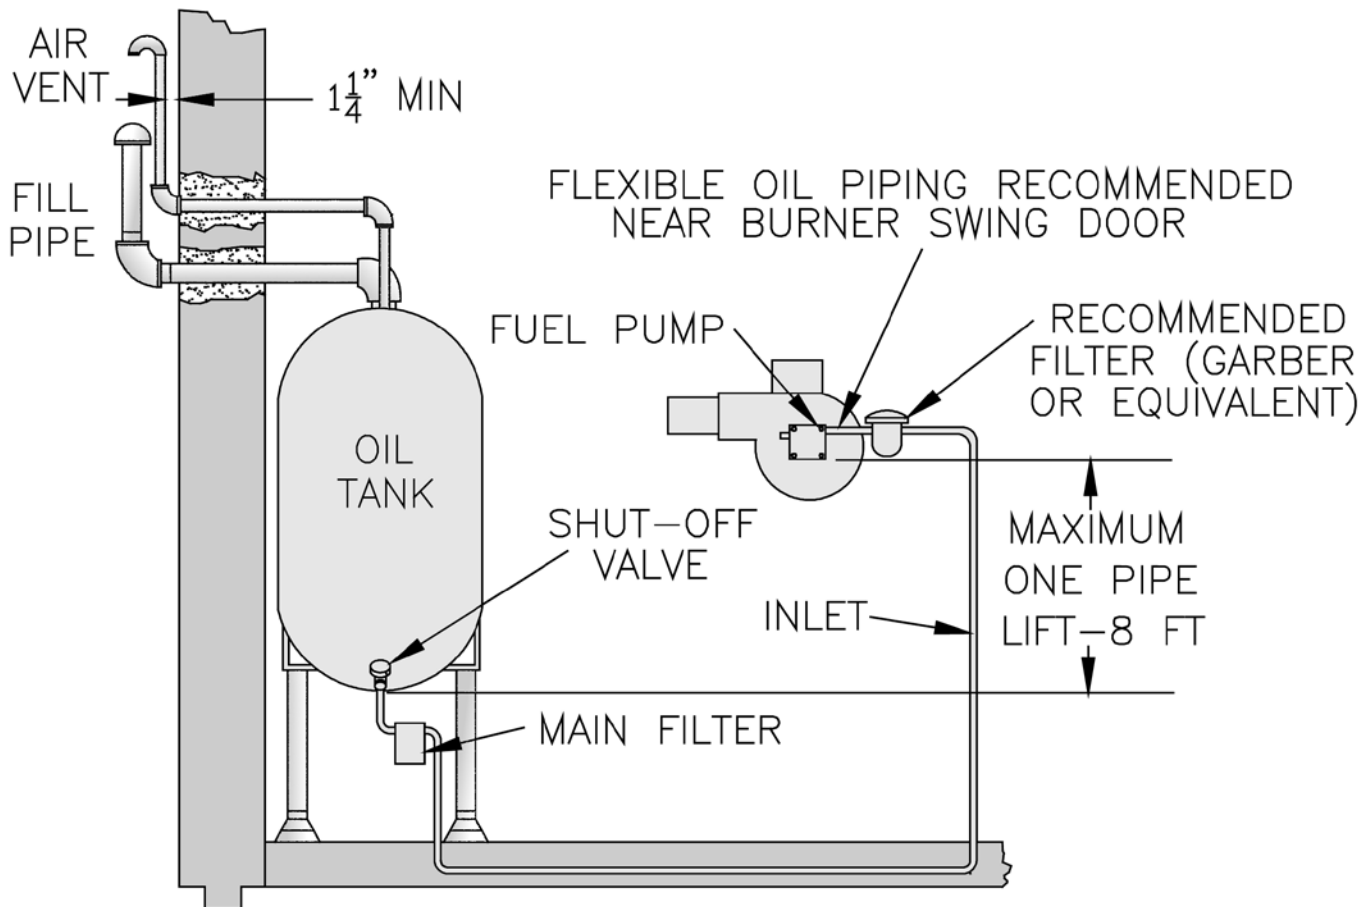

Figure 20: Single-Pipe Installation
2. The single-stage fuel unit may be installed single-pipe with gravity feed or lift. Maximum allowable lift is 8 feet. See Figure 20.